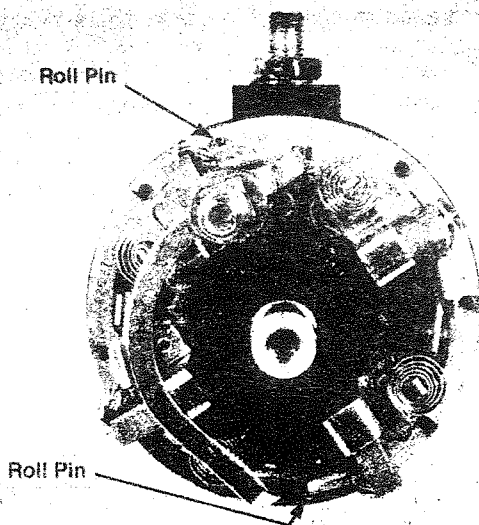

Figure 27
7. Place brush support plate flush on field ring so roll pins pass through locating holes. Figure 27.